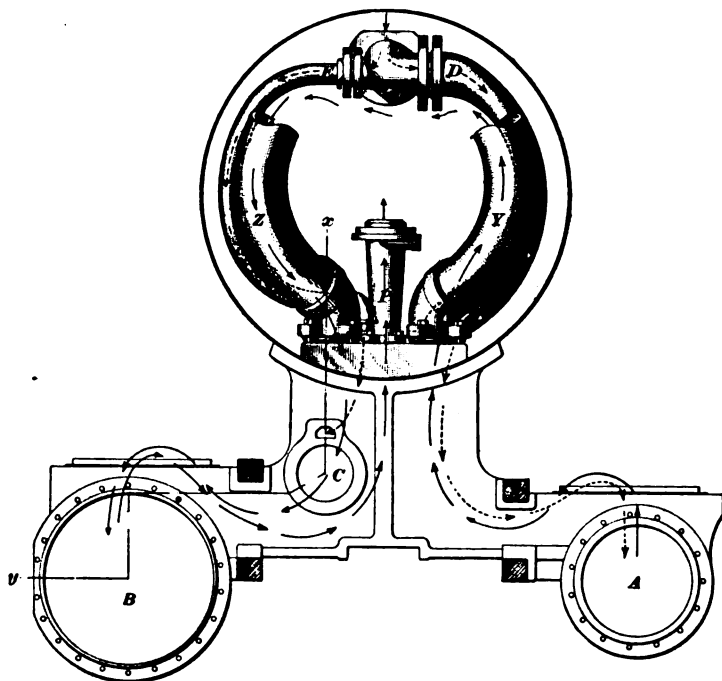

FIG. 22.
**54. General Arrangement.**—Fig. 22 is a front view of the latest type of **Richmond compound engine**, showing the relative positions of the high-pressure cylinder *A*, low-pressure cylinder *B*, and intercepting-valve chamber *C*, together with the arrangement of the steam pipes *D* and *E* and the receiver *YZ*. The upper part of the receiver is broken away, in order that the steam pipes may be seen. It will be observed that the steam pipes are of unequal diameter. The one marked *D* is of the usual size, and connects directly with the steamway
**55. Arrangement of Intercepting Valve, Etc.**—A perspective view of the Richmond compound engine is given in Fig. 24, in which a part of the low-pressure cylinder and the left half of the saddle have been broken away (on the line *xy*, Fig. 22), in order to show the relative positions of the different valves and passages; also, the low-pressure steam chest has been removed. In the figure, *M* is the intercepting valve, by means of which the exhaust steam from the high-pressure cylinder is discharged either into the low-pressure cylinder when the engine is working compound, or directly to the exhaust pipe when it is working simple. The valve *N* is called the **emergency valve**, since, by its use, the engineer